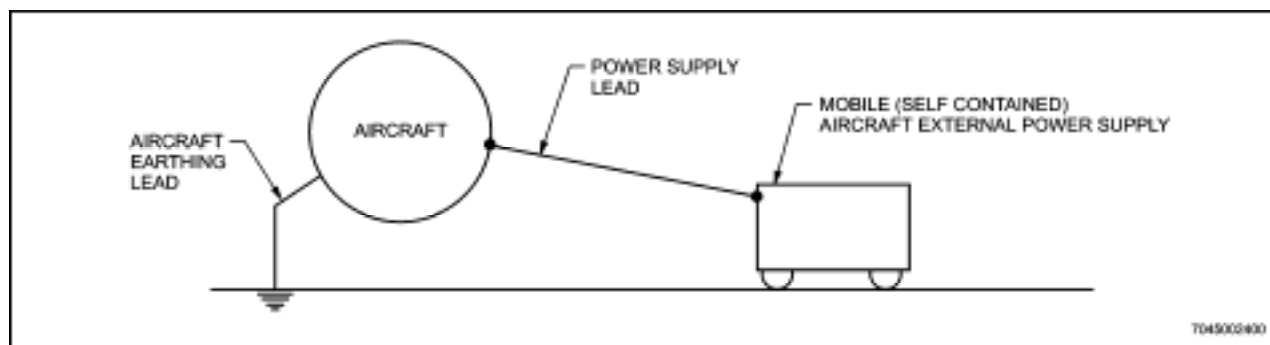

Figure 14-1 Mobile (Self Contained) Aircraft External Power Supply
14. Mobile aircraft external power supplies are to have the output AC neutral lead and/or the DC negative lead connected to the chassis. A return path may be established if the chassis is bonded to the earth mass, consequently a general policy should require that the power source chassis is NOT bonded to the earth mass. This is illustrated in Figure 14-1.